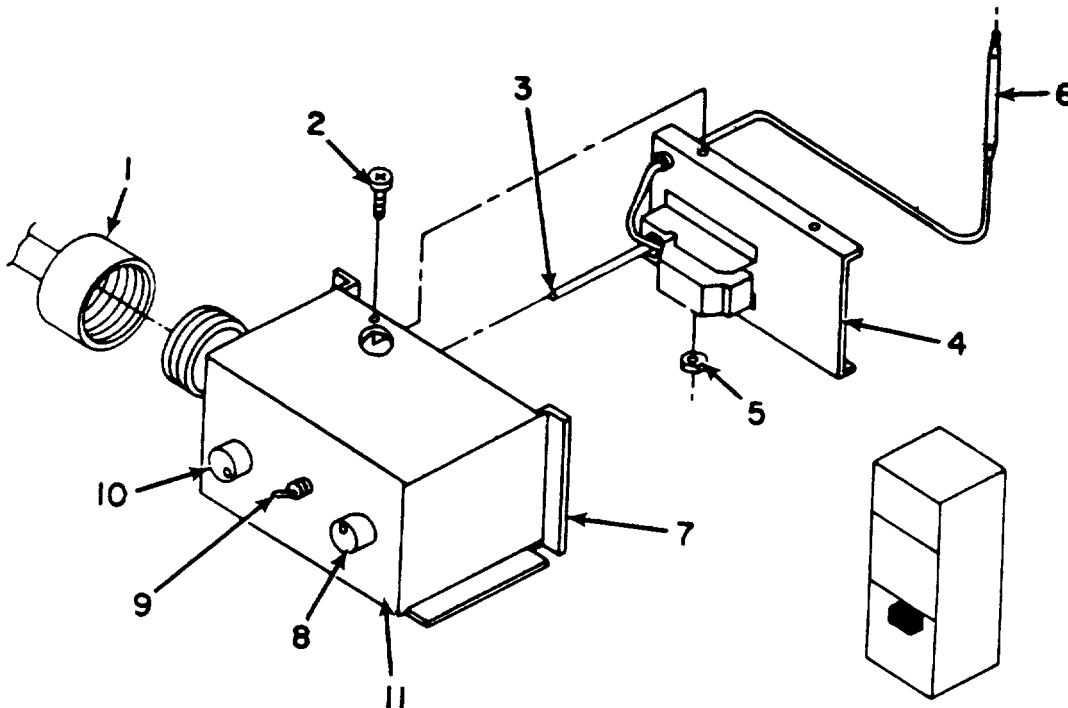

Figure 4-15. Control Panel.
a. REMOVAL. See Figure 4-15.
14. Remove grommets from control panel and information plate (Figure 4-15, item 11).
15. Remove six rivets to separate information plate (11) from control panel (7).
1. Secure information plate (Fig 4-15, item 11) to control panel (7) with six rivets.
8. Attach panel (Fig 4-15, item 4) to control panel (7) and secure with four screws (2) and nuts (5).